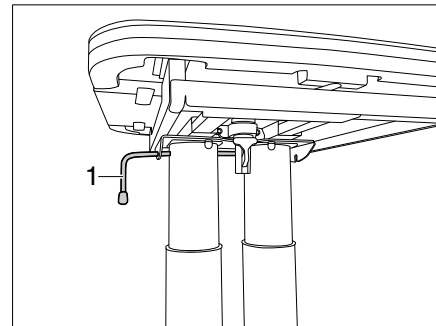

Fig. 115 Lock the table
- Swivel the catch lever (Fig. 115,1) to the right. The lift-off table is locked.
- Release the locking lever (Fig. 115,1).
- Swivel the catch lever (Fig. 115,1) to the left. The lock is open.